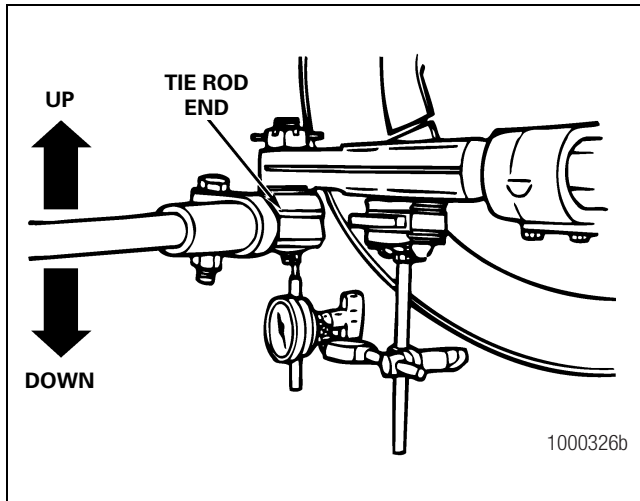

Figure 5.9
5. Place the indicator tip near the tie rod end greasing fitting. Figure 5.9. Set the dial indicator on ZERO.